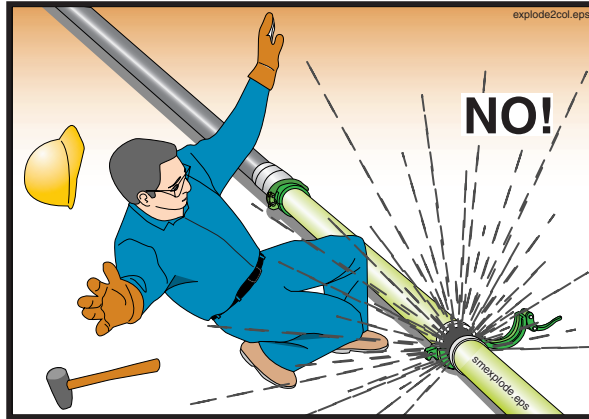

Figure 59
- **The pipeline must not be disassembled until it has been completely relieved of air.** Be sure of this! (See Figure 59.)